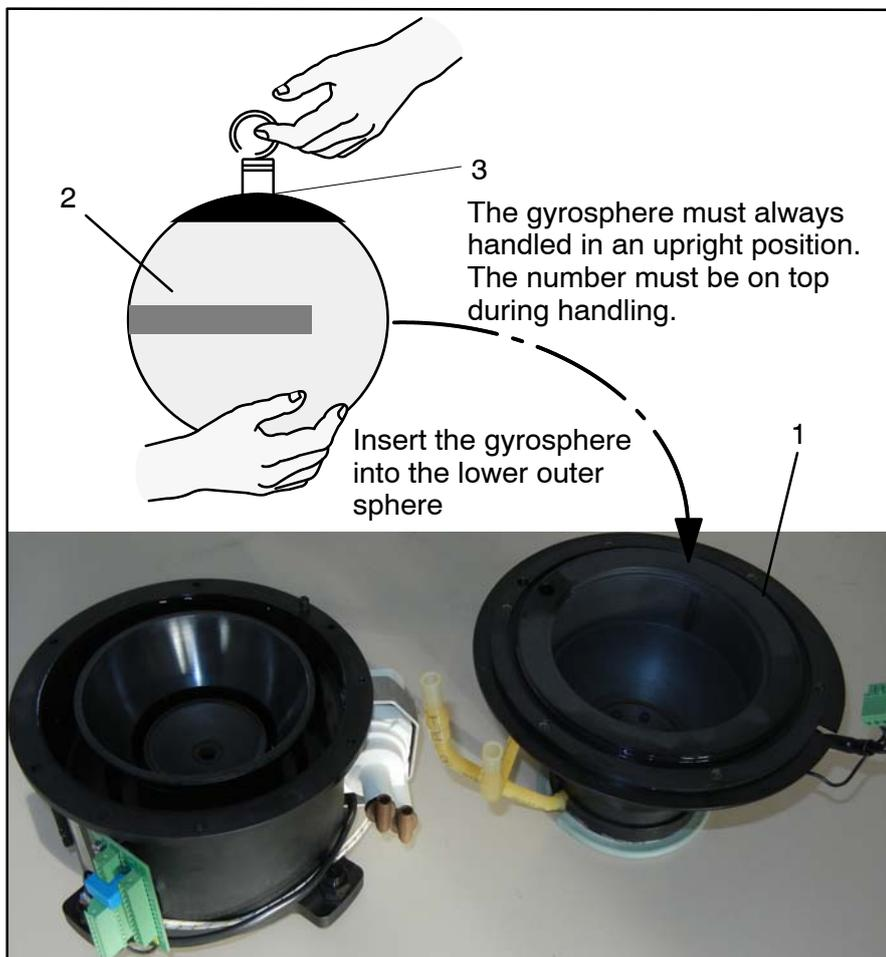

Figure 73: Reassemble the outer sphere
- Insert the gyrosphere (using the suction cup) into the lower outer sphere (see Figure 73).
- Insert a new O-ring (Figure 73/1) in the lower half of the outer sphere.